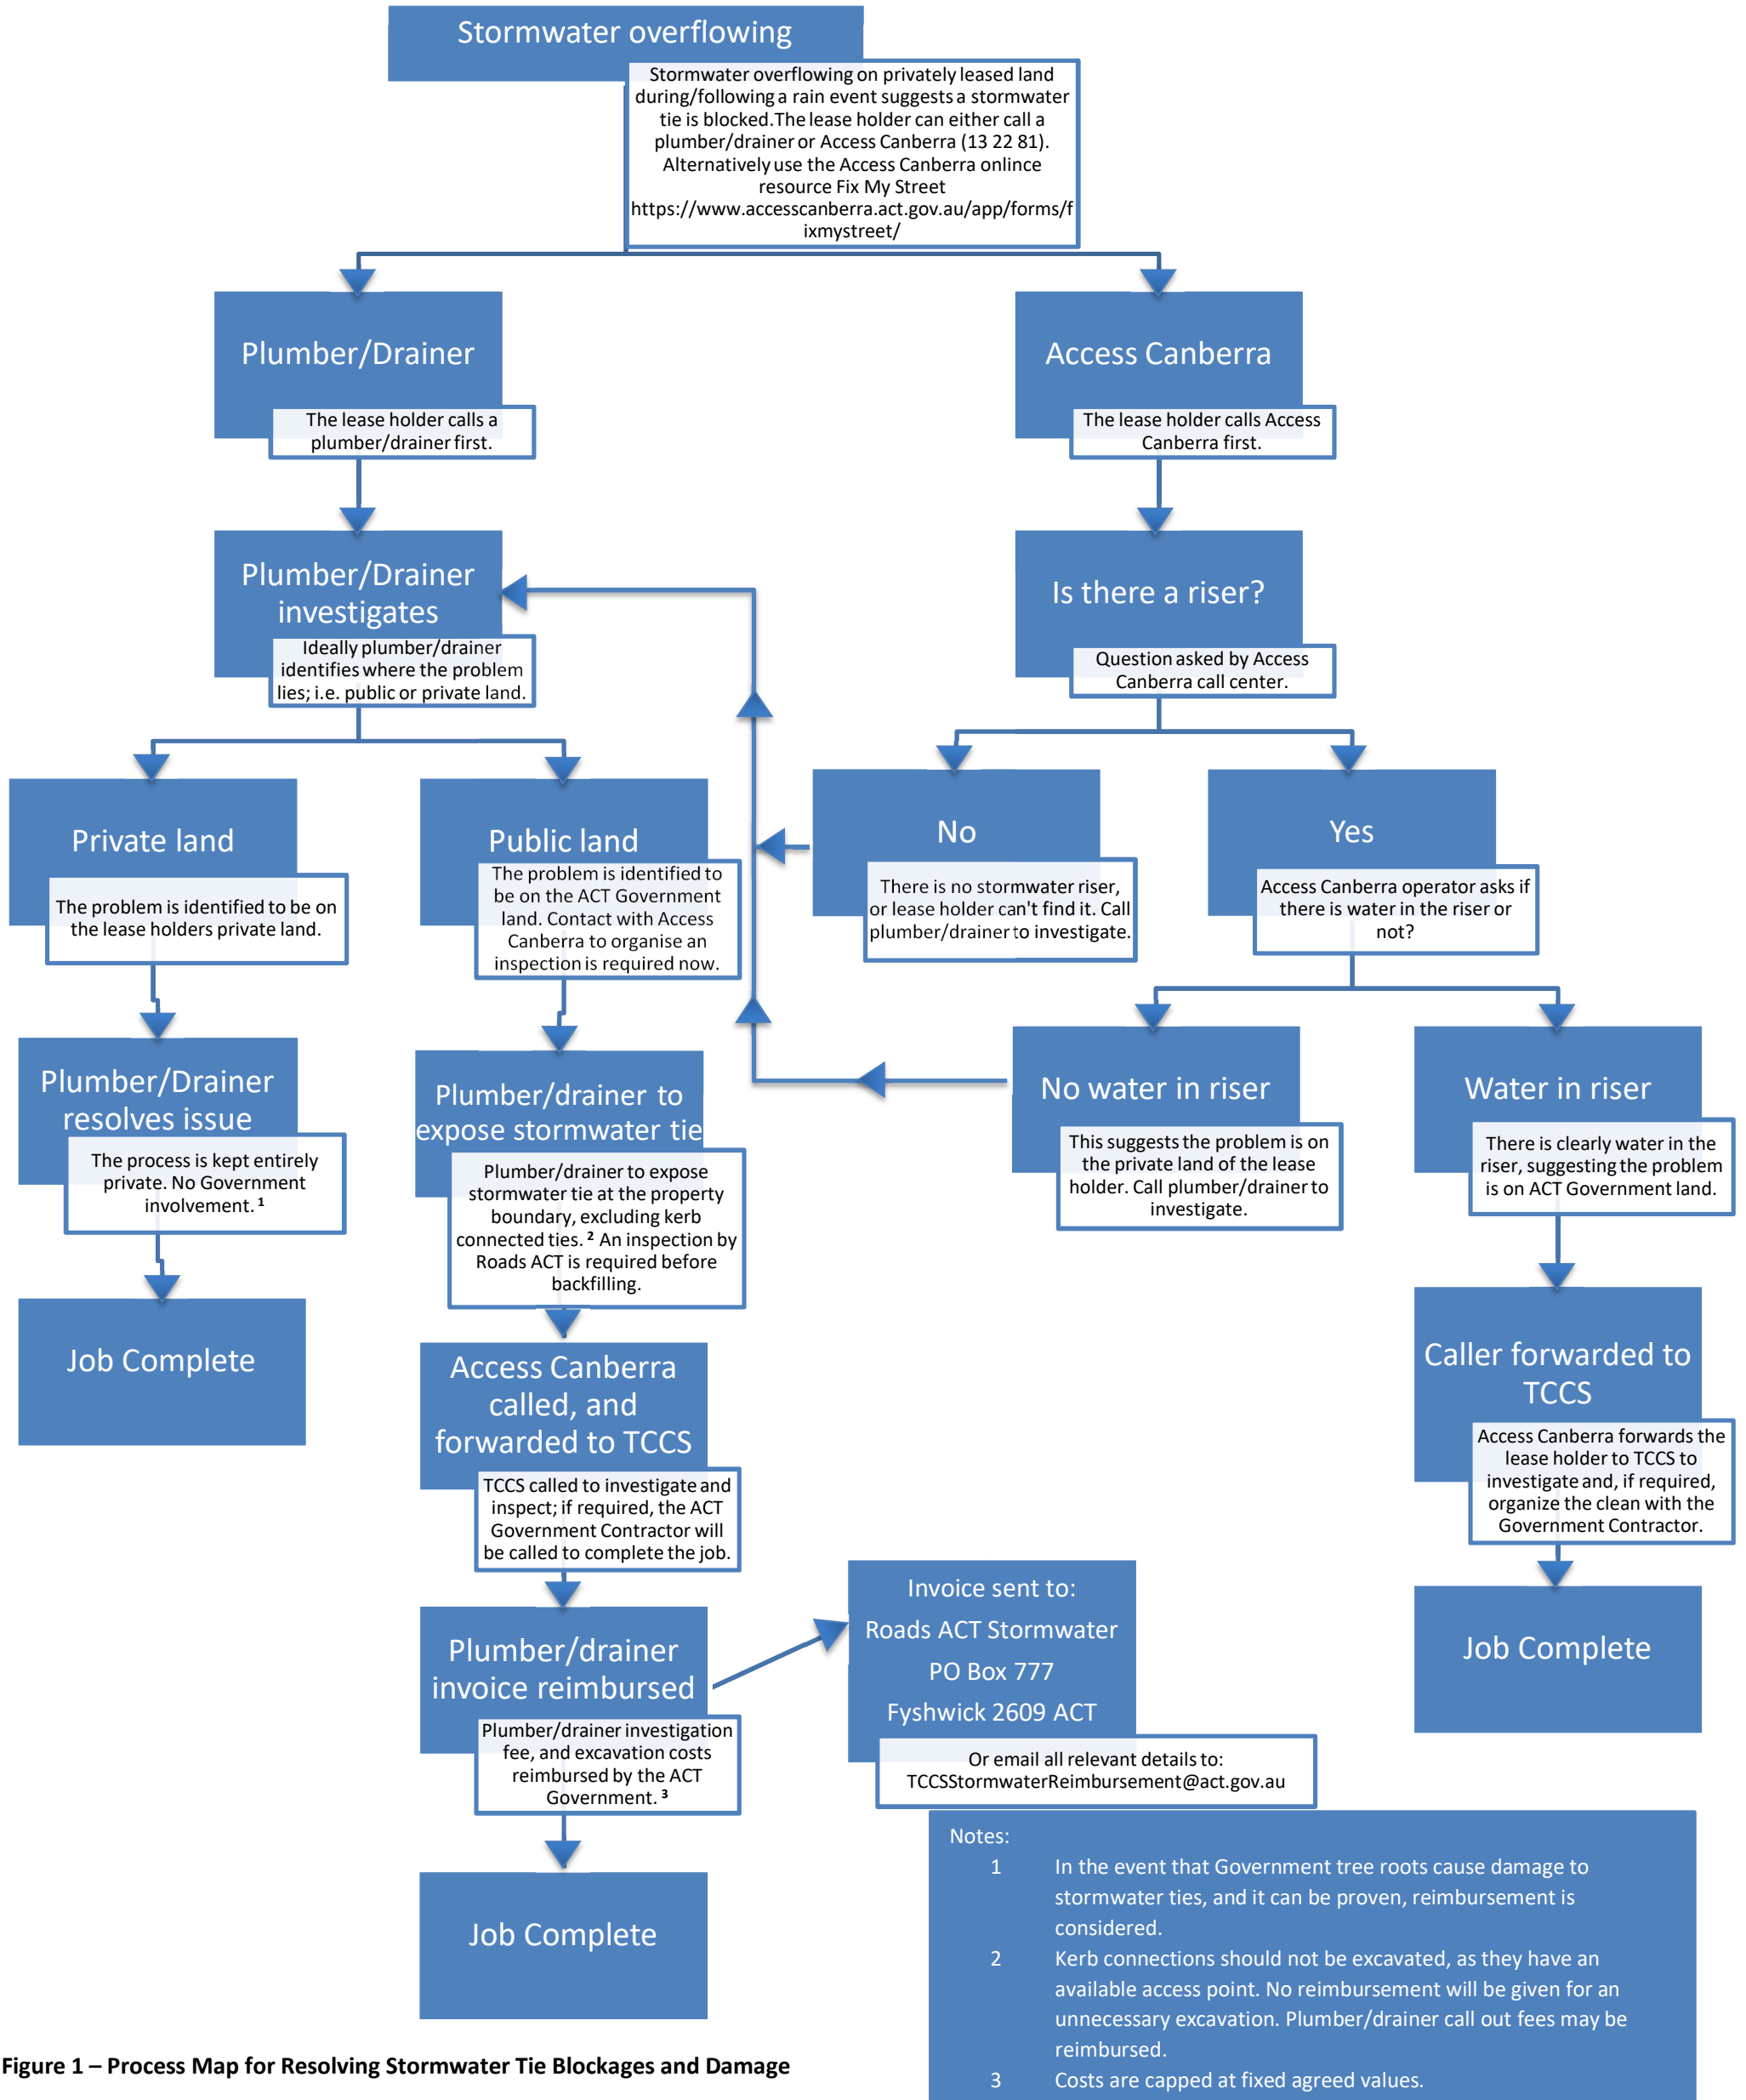

Figure 1 – Process Map for Resolving Stormwater Tie Blockages and Damage
- 3.1 When a blockage occurs, the lease holder should call a private plumber/drainer to investigate the issue. Alternatively, the lease holder can contact Access Canberra, on 13 22 81 or www.accesscanberra.act.gov.au, for further information. Refer to the Process Chart in Section 5 - Figure 1 for a visual guide. As an alternative, the online resource Fix My Street <https://www.accesscanberra.act.gov.au/app/forms/fixmystreet/> may be used to lodge a blocked stormwater tie with Access Canberra.